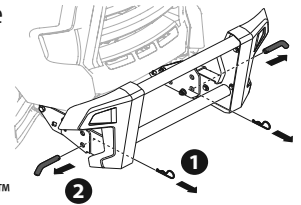

Figure 57
- Remove two cotter pins, and then pull the pins. See Figure 57.